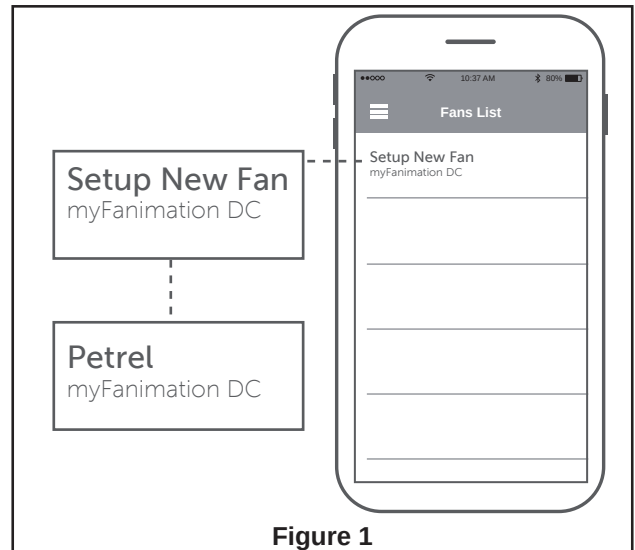

Figure 1
1. Open the fanSync app and tap the new fan to begin setup. (Figure 1)
- ☐ **1. Installing Wall Holder:** (Figure 1)